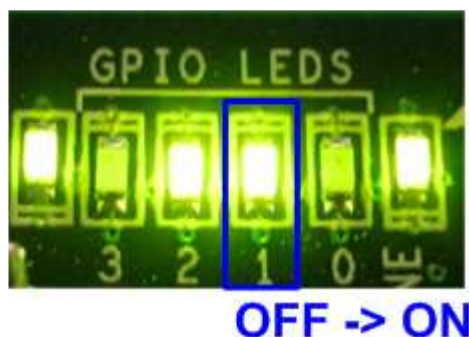

Figure 4-12 LED status during running "send_udp_client"
- After running test application, LED[1] status will change from OFF to ON as shown in Figure 4-12.